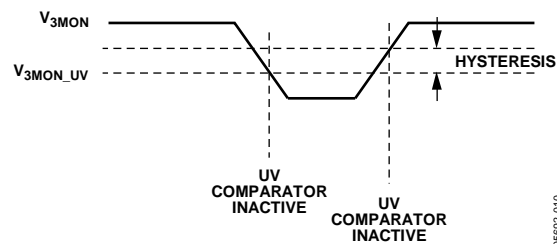

Figure 9. V_{3MON} Hysteresis
The V_{3MON} pin is monitored by a comparator to detect an undervoltage condition. It is designed with 1.5% hysteresis. When the V_{3MON} input drops below the programmed UV threshold, the comparator becomes active immediately, indicating that a UV condition has occurred. Due to hysteresis, the V_{3MON} input must be brought above the programmed UV threshold by 1.5% before the comparator becomes inactive, indicating that the UV condition has gone away (see Figure 9).
- When the external monitoring processor cannot issue the necessary WDI signal and advanced WDI mode is selected (see Figure 10 and Figure 9)